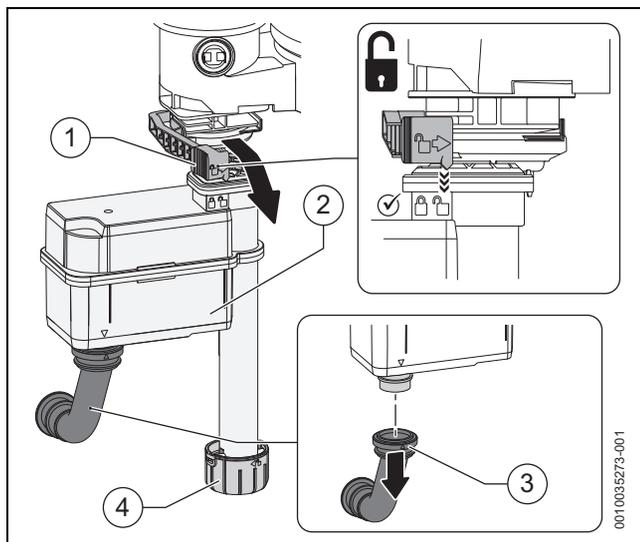

Fig. 76 Removing the siphon
Refer to figure 76.
- ▶ Remove the dirt trap [4] (→ figure 76) at the bottom and clean it.